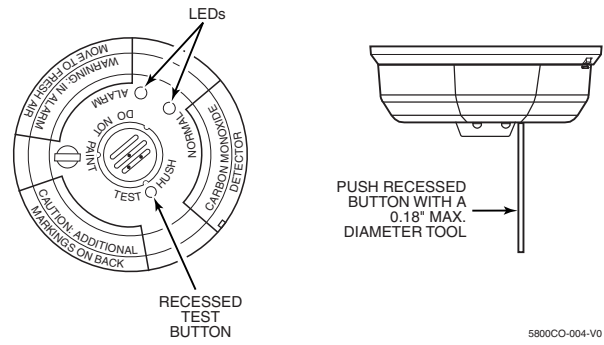

Figure 5. Recessed Test Button Opening
1. A recessed test button is located on the detector housing (see Figure 5).